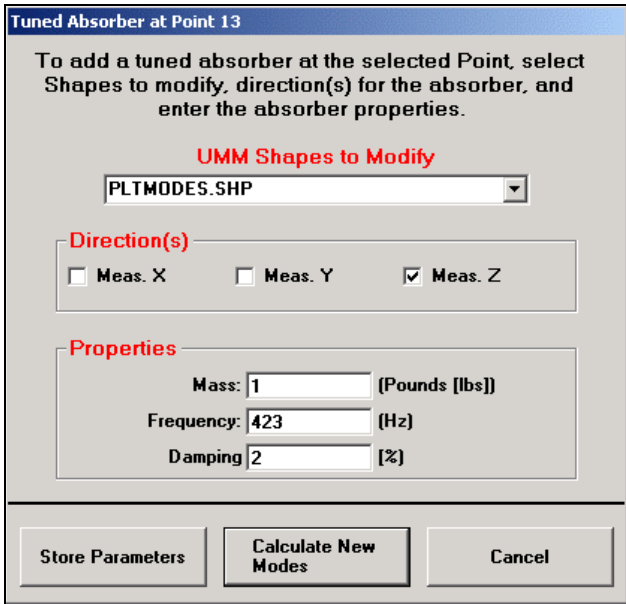

Figure 8. Adding Tuned Absorber to Plate Structure.
- Enter the parameters shown in Figure 8.